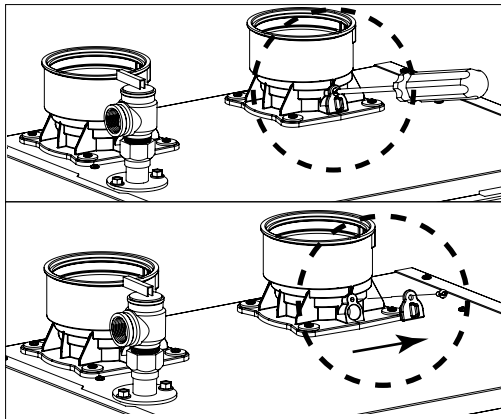

Figure 75 - Combustion Test Port
5. Reinstall the combustion test port - see Figure 75.